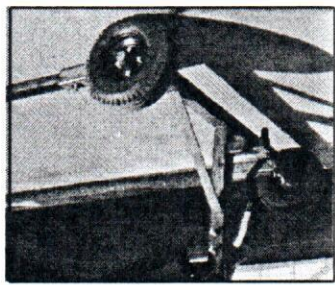

FIGURE 2
2. Install wheel and spindle assembly into receivers at side of base. Tighten bolts to 30 ft. lbs. (figure 2)